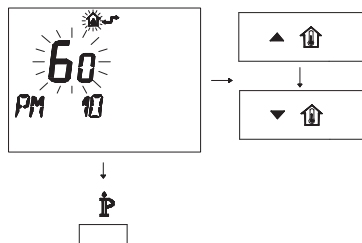

Fig. 7.42
- To modify the programmed SET, act on buttons **▲** or **▼** and wait for the number programmed to flash (Fig. 7.42).